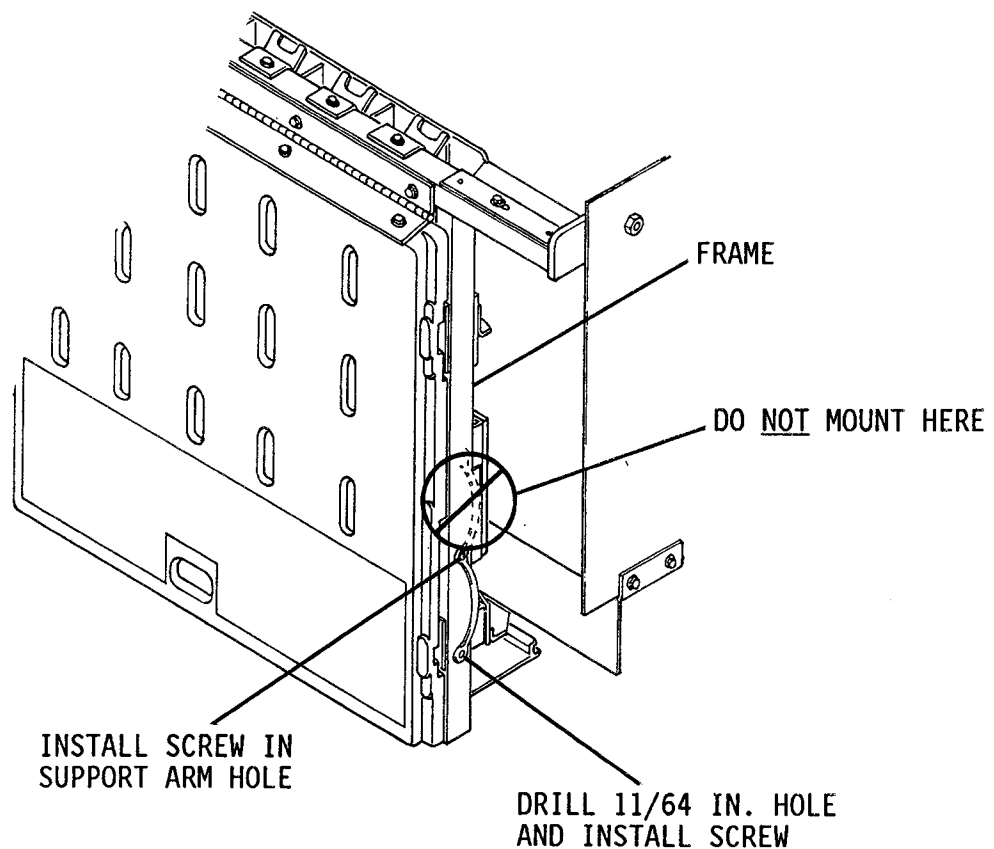

FIGURE 4. Mounting the Door Pull
1. Attach Door Pull to the right side of the Gum and Mint Frame Assembly at the Support Arm mounting hole position using #10-32 screw P/N 4041053 supplied with kit. Do not tighten screw at this time. See Figure 4.
3. Using the free hole in the Door Pull as a guide, drill a 11/64 in. hole in the outer surface of the frame. See Figure 4.